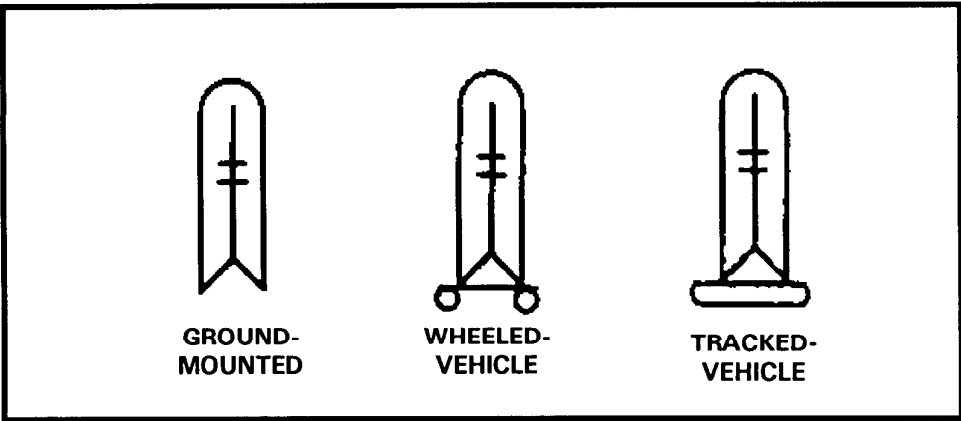

Figure E-9. Weapon symbols.
(2) *Weapon.* See Figure E-9, page E-8 for weapon symbols.